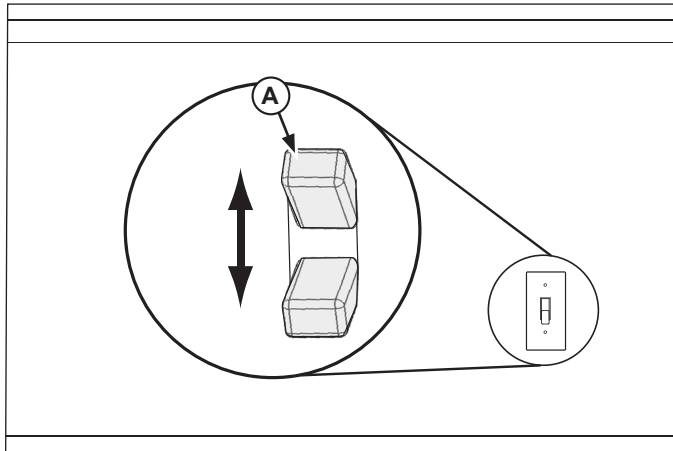

Figure 4. Refrigerated Well and Frost Top Control
3. Turn the ON/OFF switch (A) to the “ON” position. See Figure 4. This unit does not have an adjustable temperature setting. Allow the unit to run for approximately 30 minutes. For the best performance when using ice with this unit, allow unit to run for approximately 2 hours before adding ice. This will help the ice remain solid.
6. When finished using the unit. Turn the ON/OFF switch (A) to the “OFF” position and unplug. See Figure 4.